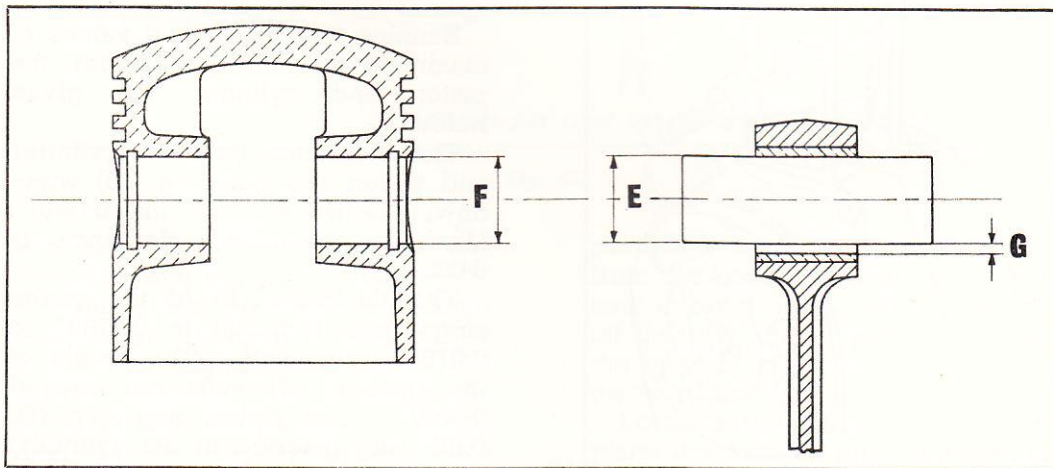

Fig. 27
Between the diameter (E) (see Fig. 27) of the gudgeon pin and the diameter (F) of its housing in the piston there is, when the parts are new, a gap varying between zero and 0.0003". Maximum clearance due to wear, 0.0008".